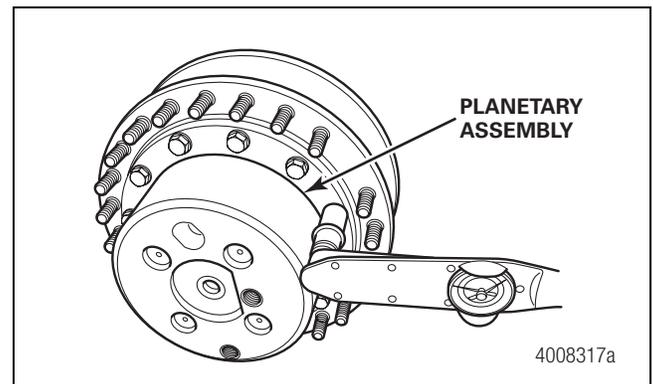

Figure 8.21
1. Install the planetary assembly onto the hub. Install the retaining bolts and tighten them to the torque specified in Section 11. Figure 8.21.